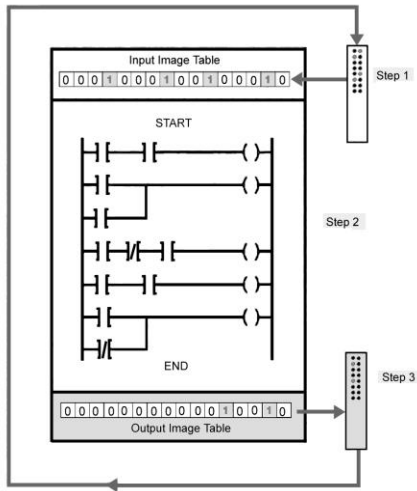

Figure 5-6 Scan process for question 12.
12. For the scan process illustrated in Figure 5-6, step 2 involves 12. _____